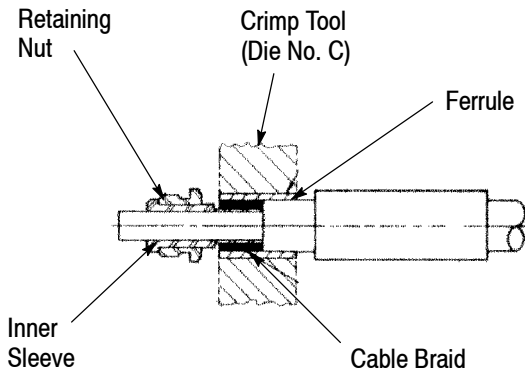

Figure 4
3.2. Crimping the Cable to the Inner Sleeve (Figure 4)
2. Position the loose unit on the dielectric as shown in Figure 4.